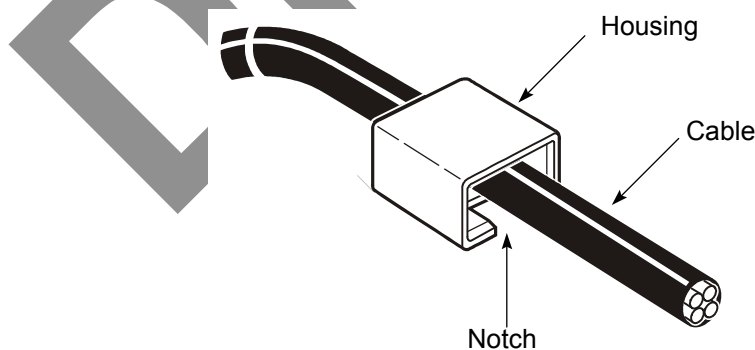

Figure 37 – Placing the connector housing on the cable
1. Cut one end of the cable with the wire cutters and slide the connector housing onto the cable, with the housing notch pointing toward the trimmed end of the cable; see Figure 37.